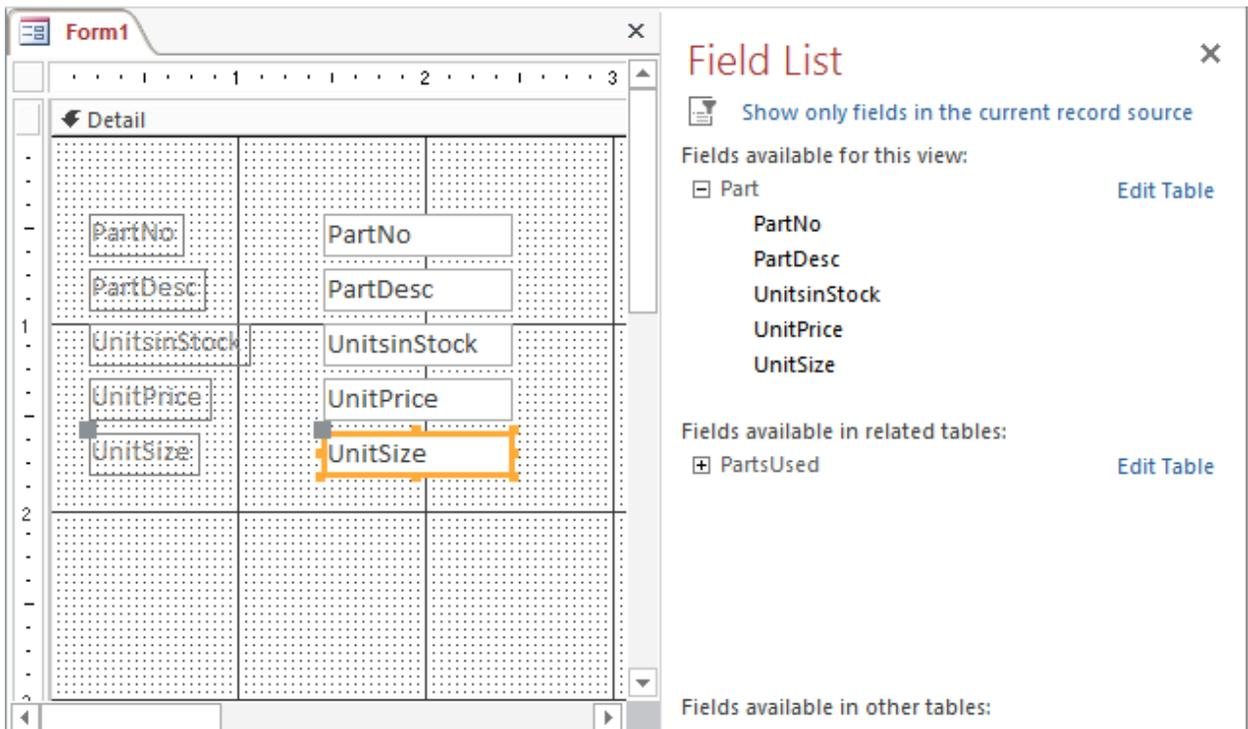
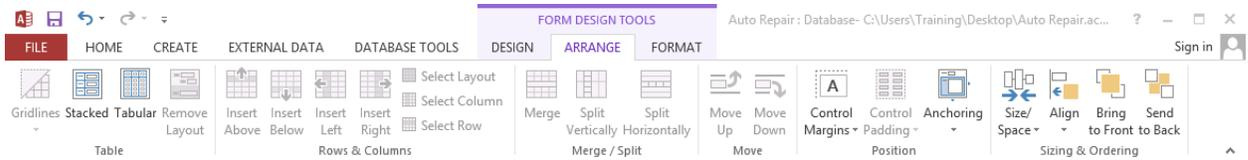
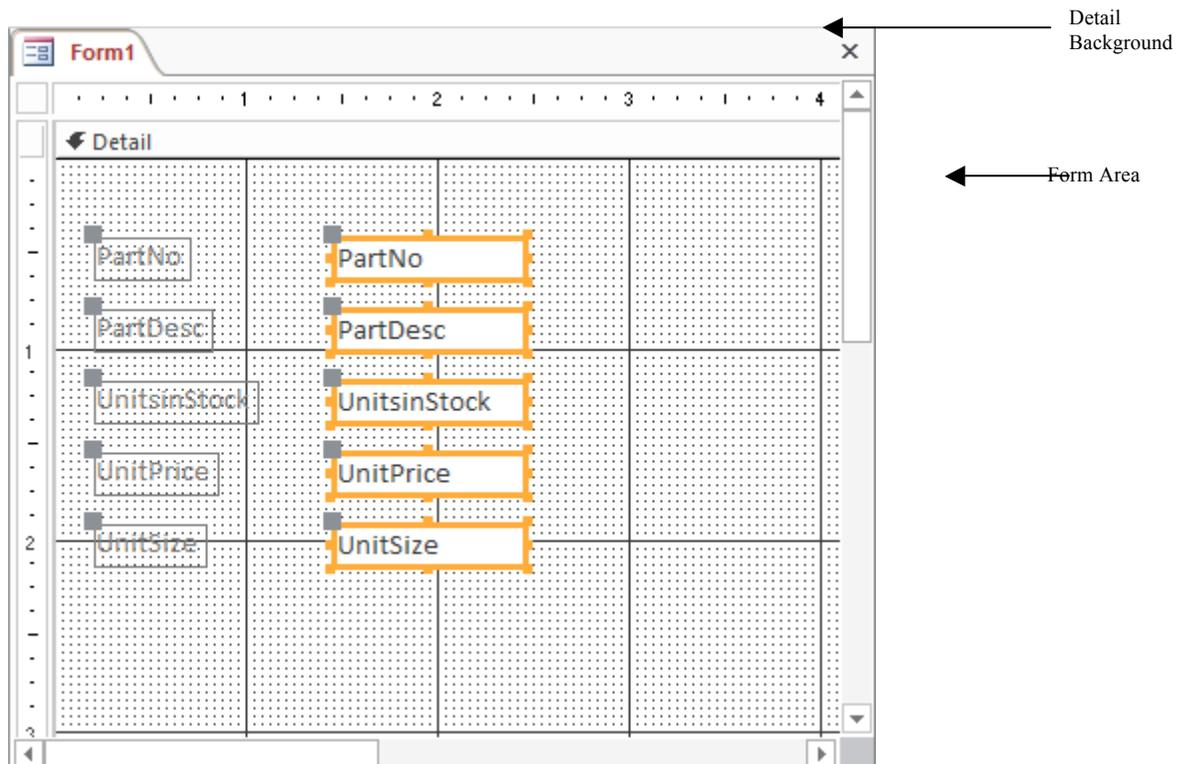

Figure 13: Initial Placement of Fields
Figure 14: Arrange Tab Choices for Manipulating Controls in Design View
Figure 15: Form Fields after Adjusting Horizontal and Vertical Space
3. Adjust Horizontal and Vertical Spacing: Your form fields may be too tightly spaced, as shown in Figure 13. Using the choices in the **Arrange → Size/Space** of the Sizing & Ordering group (Figure 14), you can increase, decrease, or make the vertical spacing equal. Before using this command, select all fields in the Design window using the mouse and the **Shift** key. With all fields selected, click **Increase Vertical**. Repeat the same procedure using the other choices in the Position group. Figure 15 shows the fields after increasing the horizontal and vertical spacing two times.
4. Align the Fields: The fields in Figure 13 are evenly aligned because you added them to the form at the same time. If you add a new field, the alignment may not be even. You can change the alignment by using the commands in the Control Alignment group in the ribbon. To align controls, select the form fields to align (use the **Shift** key) and then choose the kind of alignment from the Control Alignment group. You can align fields to the left, right, top, bottom, or grid.